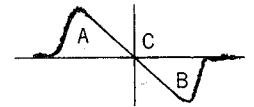

Fig. 8
- Adjust the primary core (lower) of T201 so that the output is like the S curve shown in Fig. 8 with A and B symmetrical with respect to C.